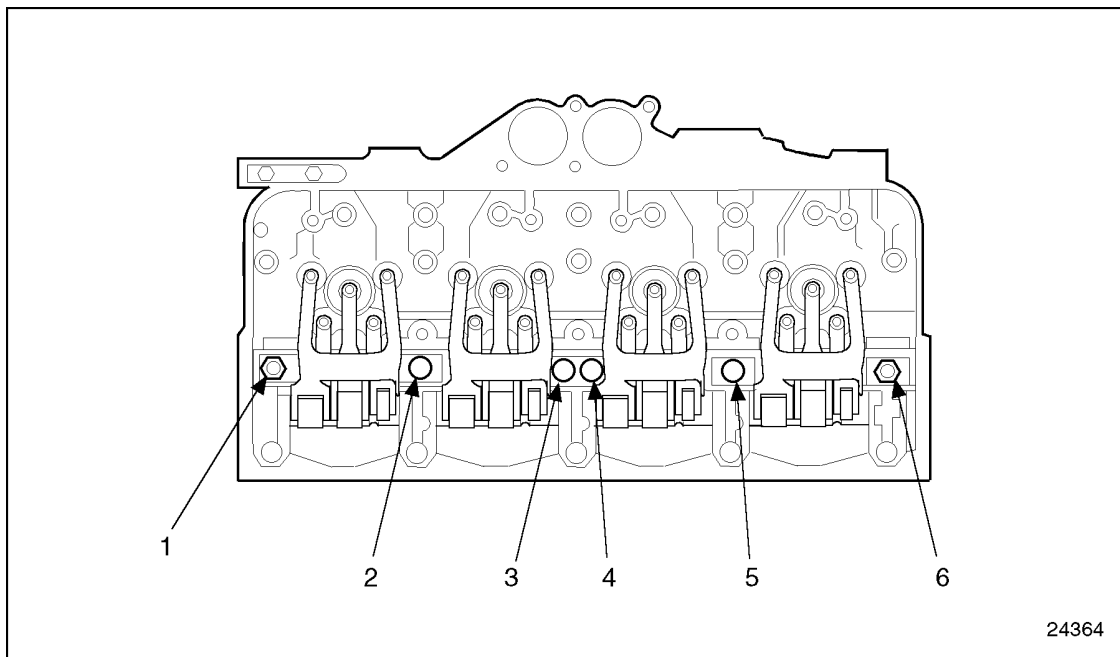
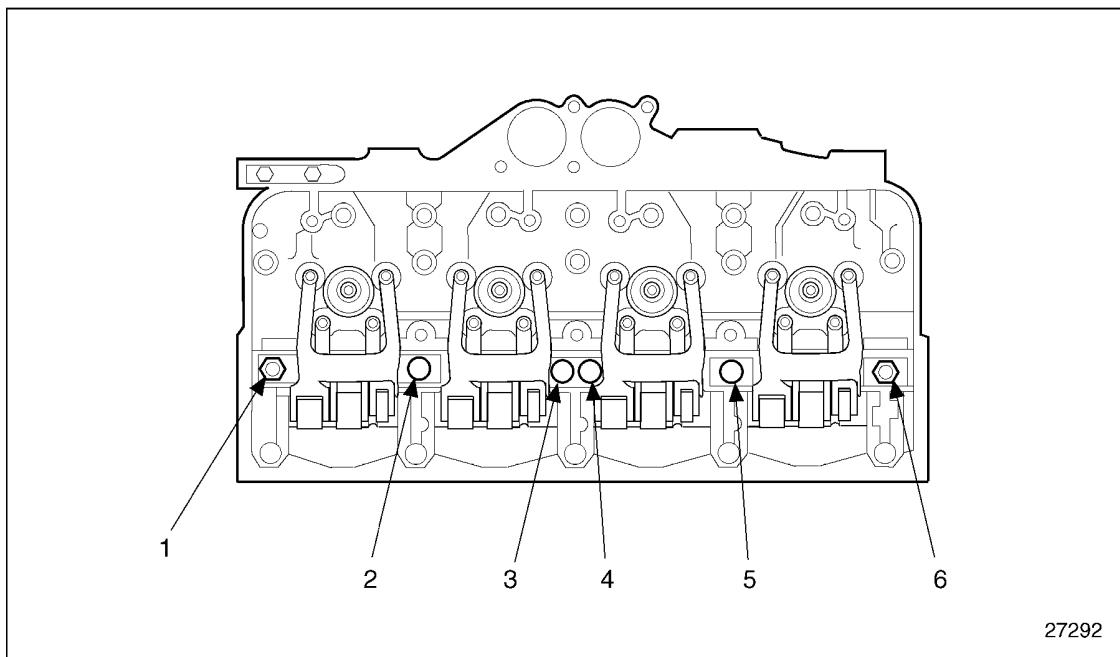

Figure 1-52 **Rocker Arm Shaft Bolts and Nut Identification Numbers**
Figure 1-53 **Rocker Arm Shaft Bolts and Nut Identification Numbers (Series 50G)**
3. Remove the rocker arm shaft bolts (No. 2, 3, 4 or 5) and nuts (No. 1 or 6) that retain the rocker arm shaft assembly to the cylinder head. See Figure 1-52 for Series 50 Diesel and see Figure 1-53 for Series 50 Gas. For camshaft or cylinder head removal, both rocker arm shaft assemblies must be removed.